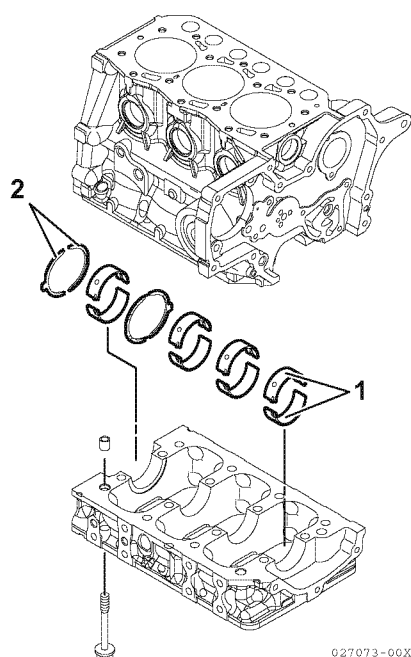

Figure 6-87
2. Install new bearing inserts (Figure 6-87, (1)) and thrust bearing (Figure 6-87, (2)) in the cylinder block and main bearing caps. Be sure the oil holes in the upper bearing shells align with the oil ports in the cylinder block. Apply a liberal coat of clean engine oil to the bearings and crankshaft journals.